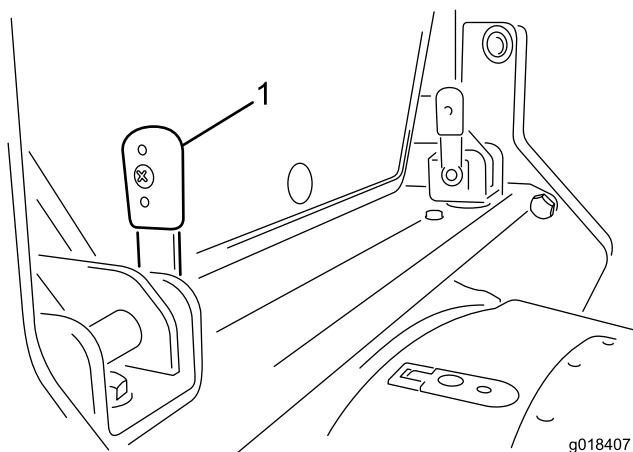

Figure 15
1. Rotate the two locking levers, located on the cross beam at the rear of the cab, so that they point upward (Figure 15).
2. With the levers in the vertical position (Figure 15), push them through the sets of brackets. It might be necessary to wriggle the levers into the brackets to align the locking pegs in the slots.